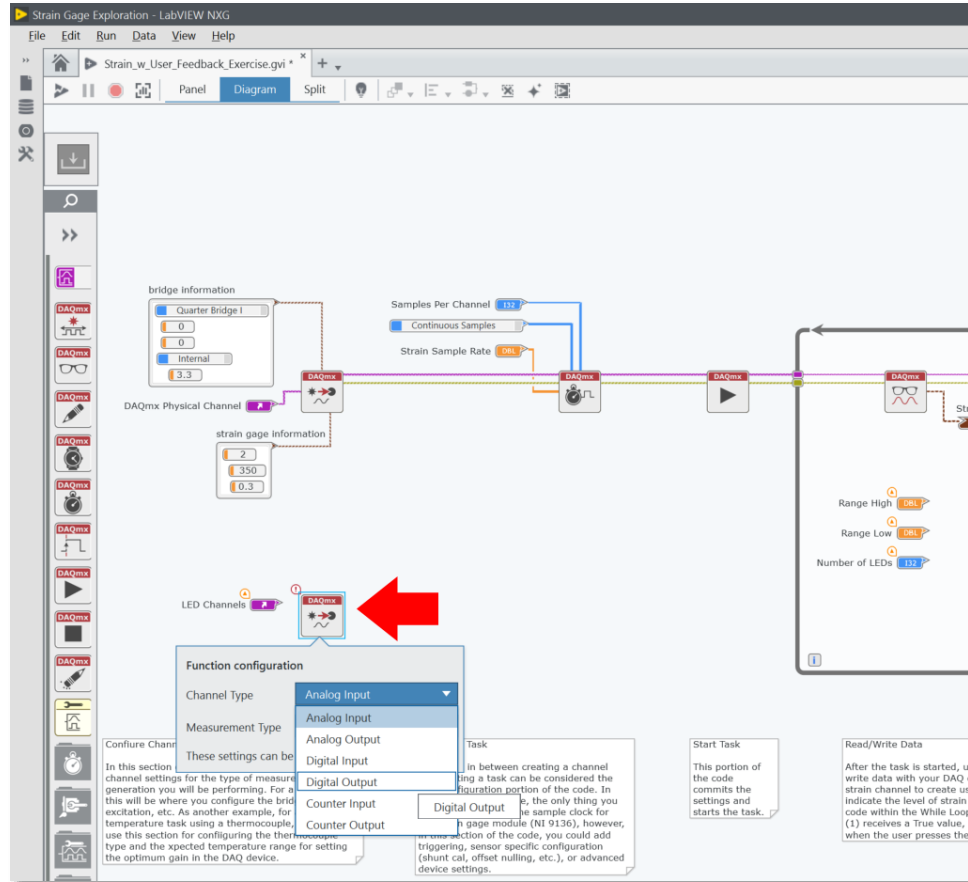

Figure 5-28 The digital output code will run parallel to the strain task.
10. From the **Hardware Interfaces** menu of the palette, drag the **NI-DAQmx Create Channel** (arrow in **Error! Reference source not found.**) and place it in the position shown in Figure 5-28.